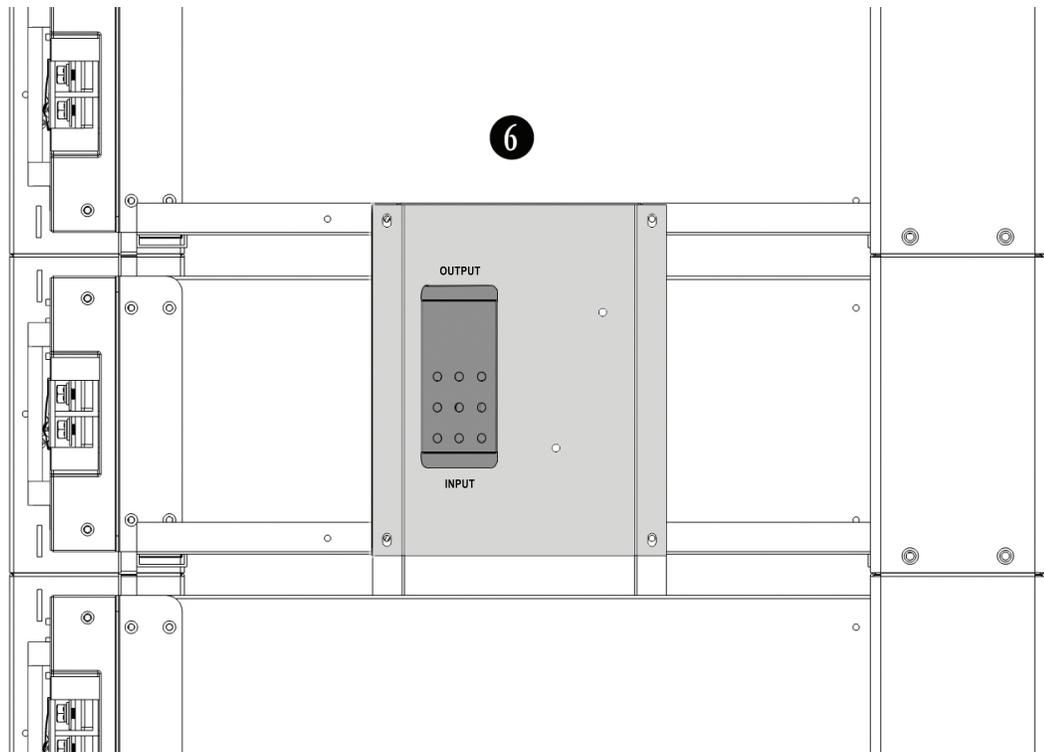

Figure 3.0
- 1.5 When all batteries have been installed, fasten a combiner box ⑥ to the included mounting plate with the single output port facing up using M4 half-round Philips screws. Repeat for the 2nd combiner box. Mount the combiner boxes on the left and right sides of the cabinet trays using the supplied M4 half-round Philips screws as shown below in Figure 3.0.